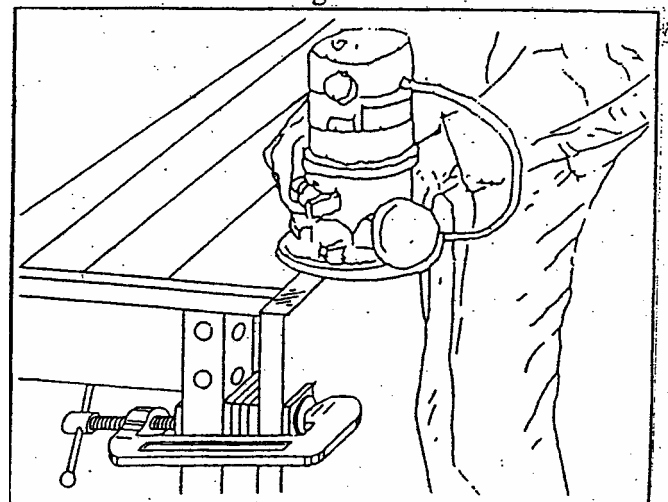

Figure 5
3. Use a router bit with a 2 or 3 flute cutter head with a ball bearing guide to flush trim the strips to the edge of the substrate. See Figure 5.